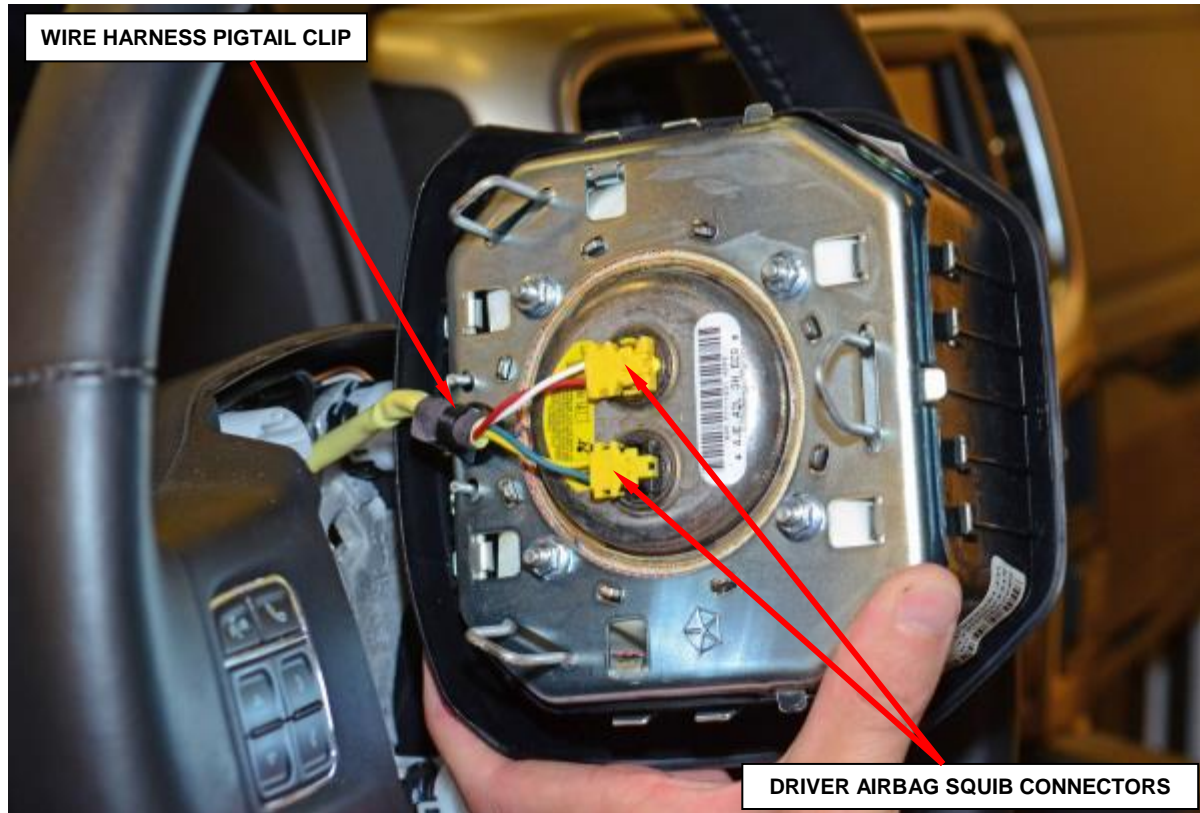

Figure 3 – Driver Airbag Squib Connectors
9. Disconnect the two driver airbag squib connectors. Depress the latches on each side of the connector insulator and pull the insulators straight out from the driver airbag inflator to disconnect them from the connector receptacles (Figure 3).
10. Disengage the wire harness pigtail clip from the housing and remove the driver airbag (Figure 3).
20. Engage the wire harness pigtail clip to the housing (Figure 3).
21. Carefully position the driver airbag into the hub cavity of the steering wheel and connect the two driver airbag squib connectors to the airbag inflator connector receptacles by pressing straight in on the connector. Be certain to engage each keyed and color-coded connector to the matching connector receptacle. Be certain that each connector is fully engaged in its receptacle by listening carefully for a distinct, audible click as the connector latches snap into place (Figure 3).